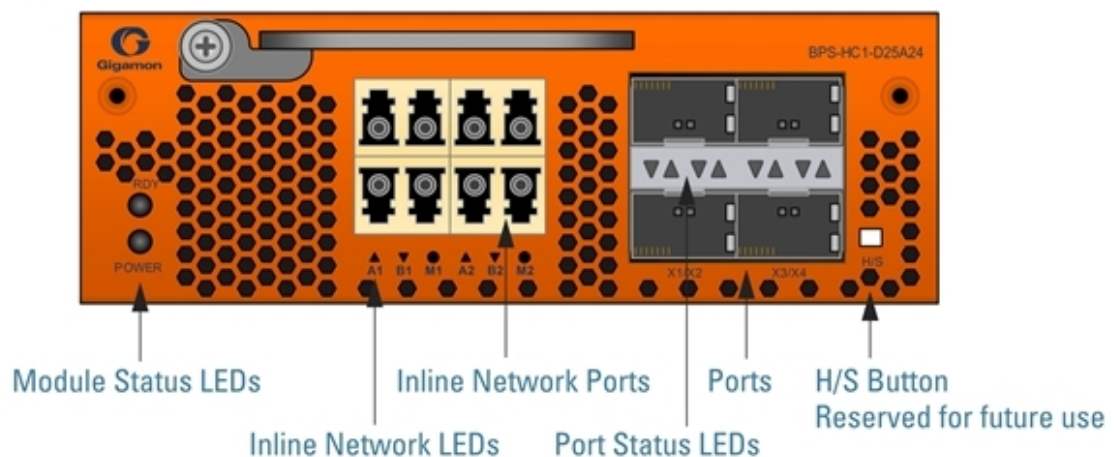

Figure 6 Bypass Combo Module BPS-HC1-D25A24
- Bypass Combo Module with two SX/SR (50/125μm multimode) inline network port pairs and four regular SFP+ port cages (BPS-HC1-D25A24) (Figure 6 Bypass Combo Module BPS-HC1-D25A24)